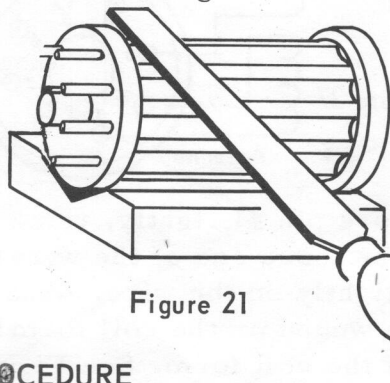

Figure 21
- 1 Before winding the broadcast coil, it is first necessary to remove the small slots on the top of the ridges of the coil form. Place the coil form on a bench or in a "V" block and file these small slots so that the ridges, which run the length of the coil, are smooth. See Figure 21.